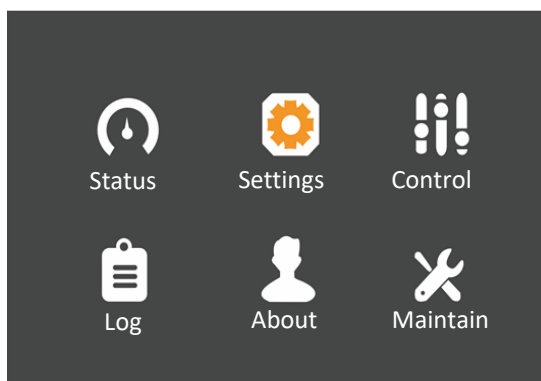

Figure 5-16 Main Menu Screen
1. Access the main menu screen and press the  or  key to switch the cursor to select 'Settings', then press the  key to confirm it. See Figure 5-16.